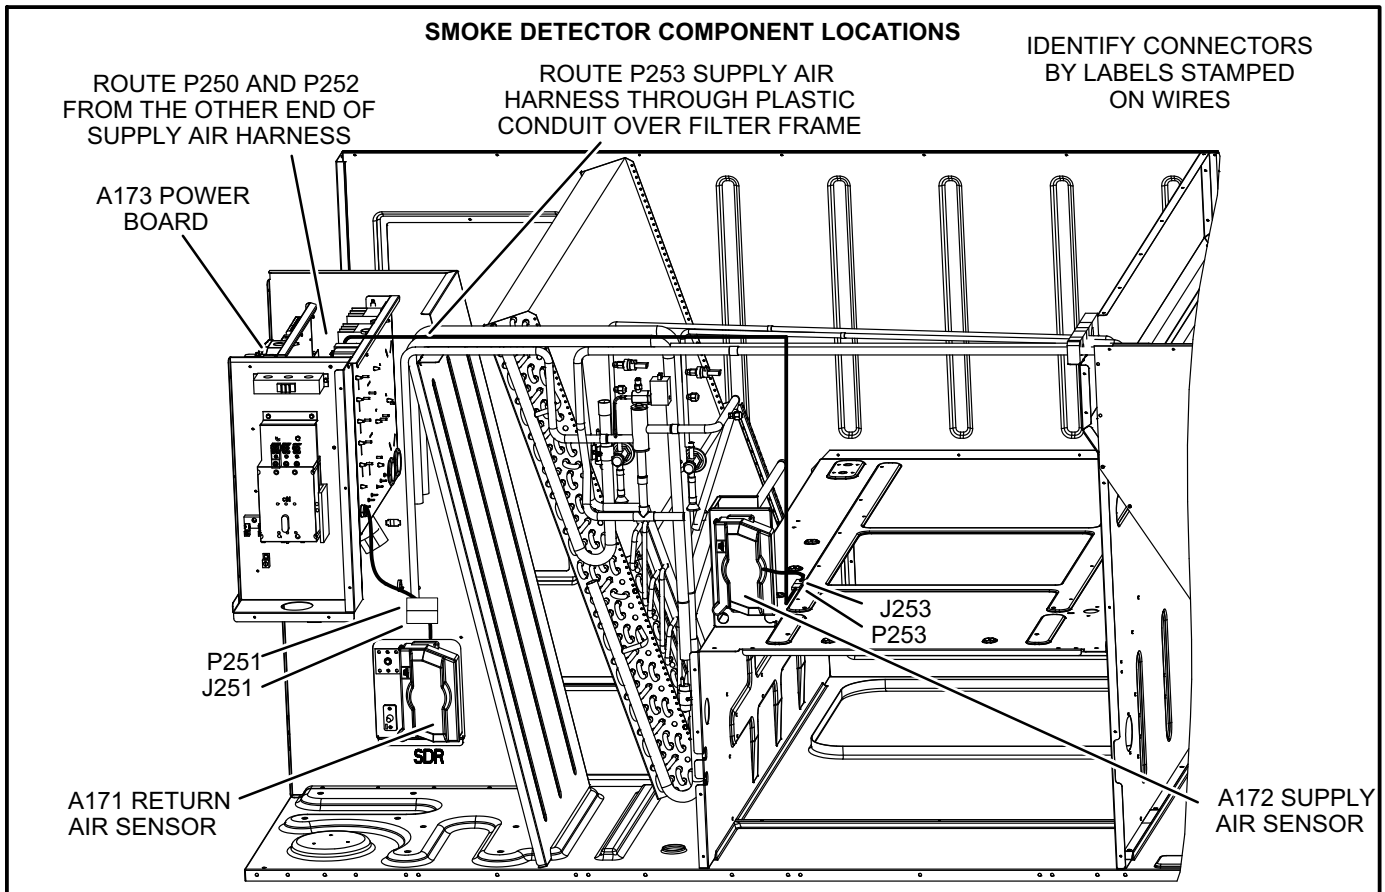
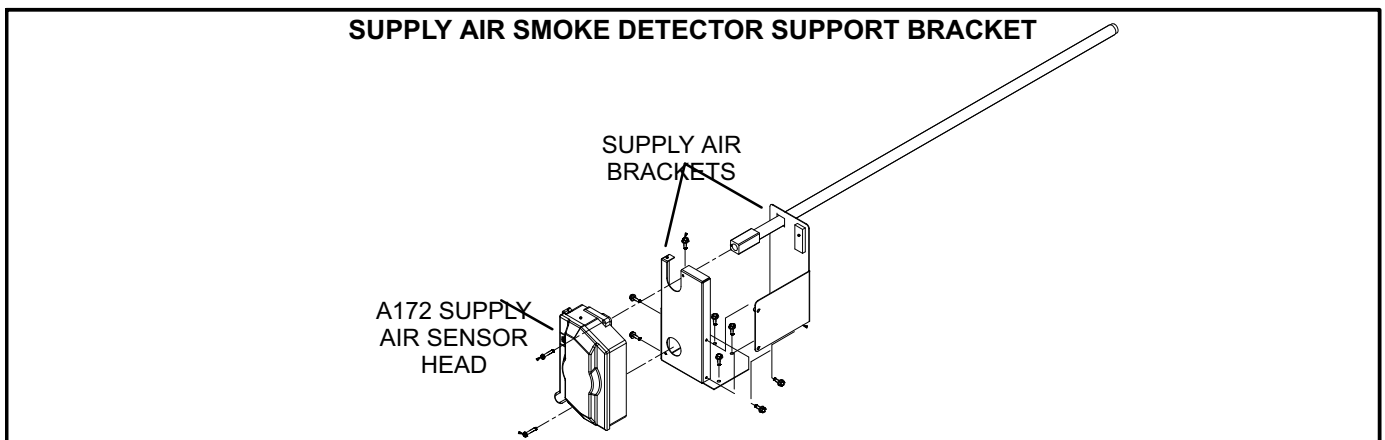

FIGURE 1
FIGURE 2
Use manufacturer's instructions provided with smoke detector to install sensor(s) and power board. Refer to figure 1 for location of power board, supply air sensor and return air sensor. See figure 2 to assemble the supply air sensor bracket.
- 1 - Supply air smoke detector installations -- Route harness wires across the top of the unit. Secure wires to existing bundle and route from the control area to the blower compartment as shown in figure 1. Take care to secure wires away from other components.